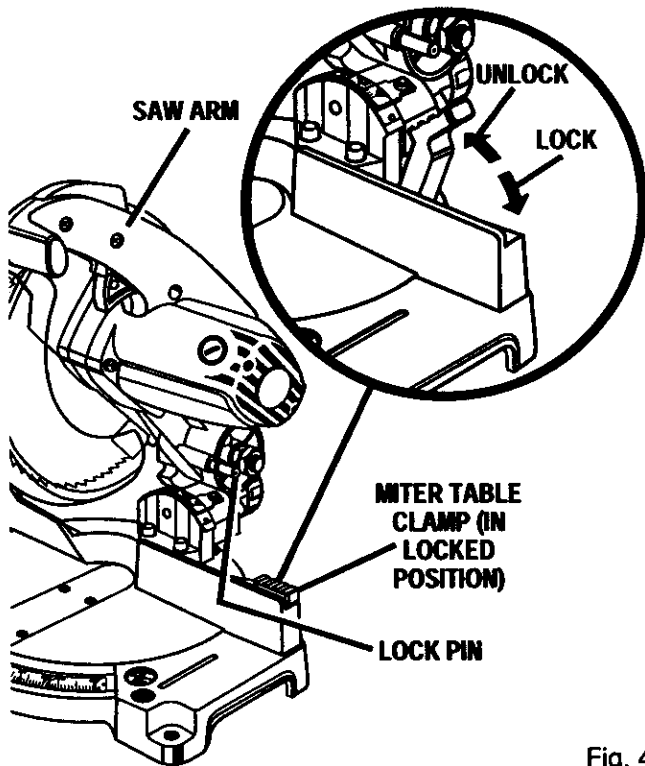

Fig. 4
- Your saw has been shipped with the saw arm locked in the down position. To release saw arm, push down on top of saw arm and pull out the lock pin. *See Figure 4.*
See Figure 4.